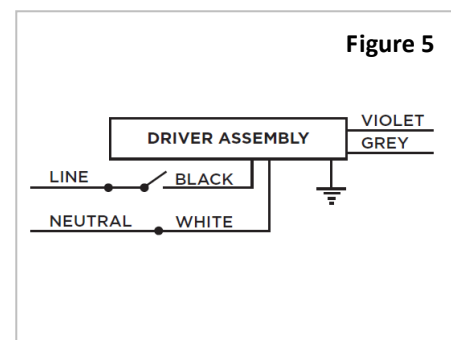

Figure 5
3. Install listed conduit in the knockout holes for wire protection. Make the following Electrical Connections (Figure 5):